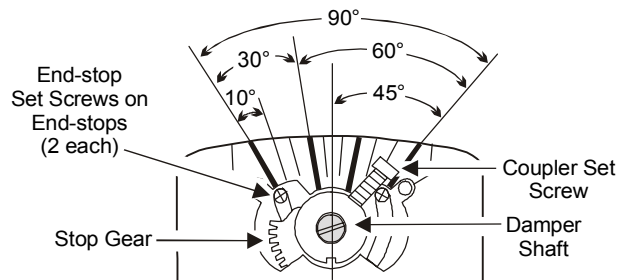

Figure 6: Setting the Rotation Range
- Secure the coupler to the shaft using a crescent wrench or one of the tools from the *Special Tools Needed* section to tighten the coupler set screw against the damper shaft. (See Figure 6.)
If the damper shaft rotation is less than 90°, adjust the stroke of the actuator using the scale on the actuator. (See Figure 6.)
- For a rotation range of 90°, set both end-stop set screws fully up as shown in Figure 6.
3. Use a Phillips No. 1 screwdriver to loosen the end-stop set screw that is closest to the stop gear, and move it in its slot until it is tight against the stop gear. (See Figure 6.)
5. Secure the coupler to the shaft using a crescent wrench or one of the tools from the *Special Tools Needed* section to tighten the coupler set screw against the damper shaft. (See Figure 6.)